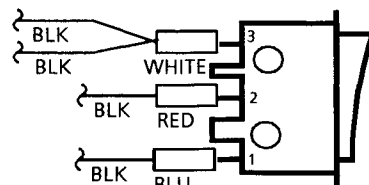

Figure 2. Main Power Switch Connections
1. Install the connectors on the switch as shown (Figure 2).